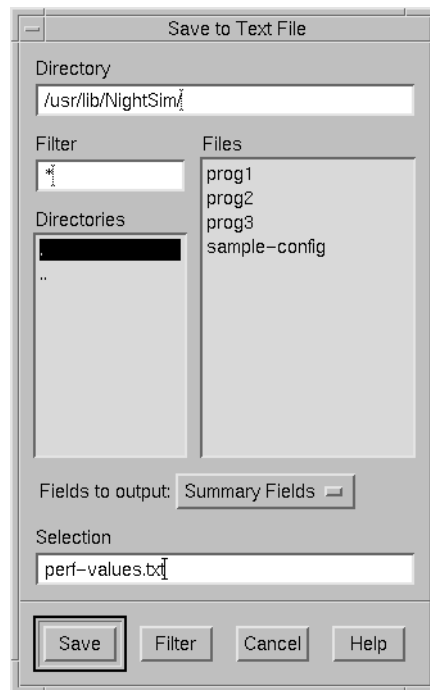

Figure 5-10. Save to Text File Dialog
This option allows you to (1) specify the name of a text file in which you wish *performance monitor* values to be saved and (2) specify the types of values to be saved. When you select this option, NightSim displays the selection dialog that Figure 5-10 presents.